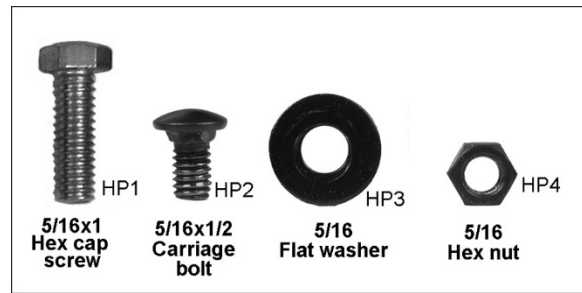

Figure 5: hardware package JWSS22B-SHP
- 1 Hardware package (see Figure 5); contains:
6. Mount scroll saw to stand, using fasteners shown (also identified in Figure 5).